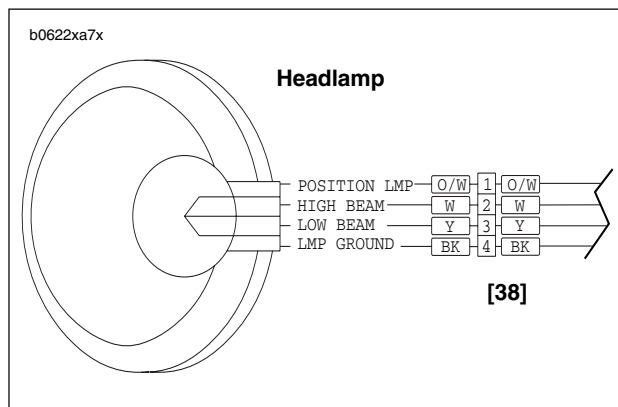

Figure 7-38. Headlamp Connector [38]
3. See Figure 7-38. Cut as many cable straps as necessary to access headlamp connector [38] along right side frame tube. Detach connector [38] from wiring harness.
2. See Figure 7-38. Route headlamp wire harness between front forks and along right side frame tube. Attach connector [38] to wiring harness. Fasten wiring harness to frame with **new** cable straps.